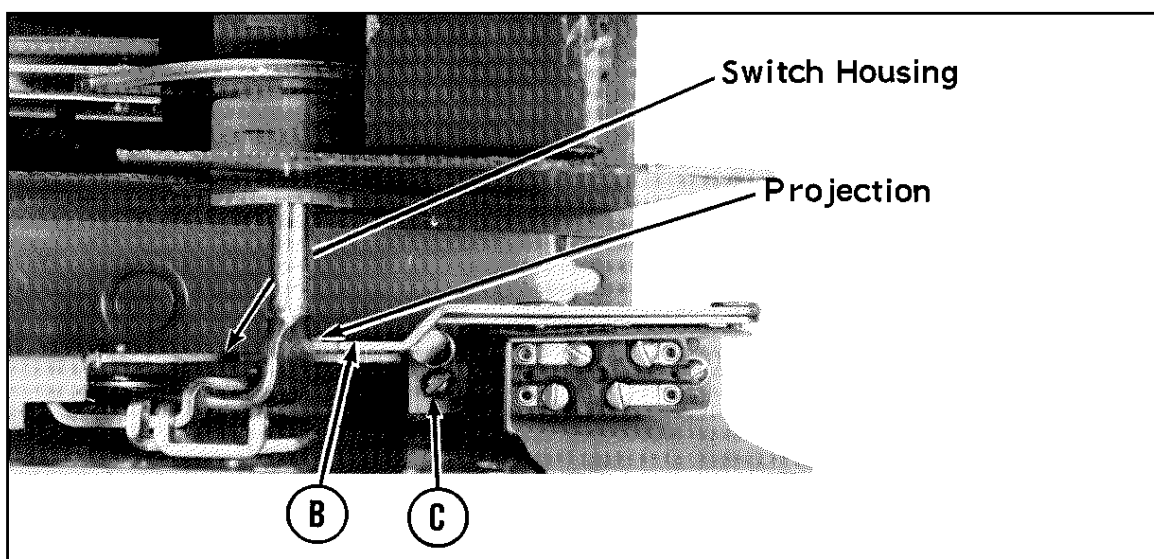

Figure 2
Insert notch (A) under projection on switch housing. Make sure lever arm (B) is on opposite side of housing flange as shown in Figure 2.